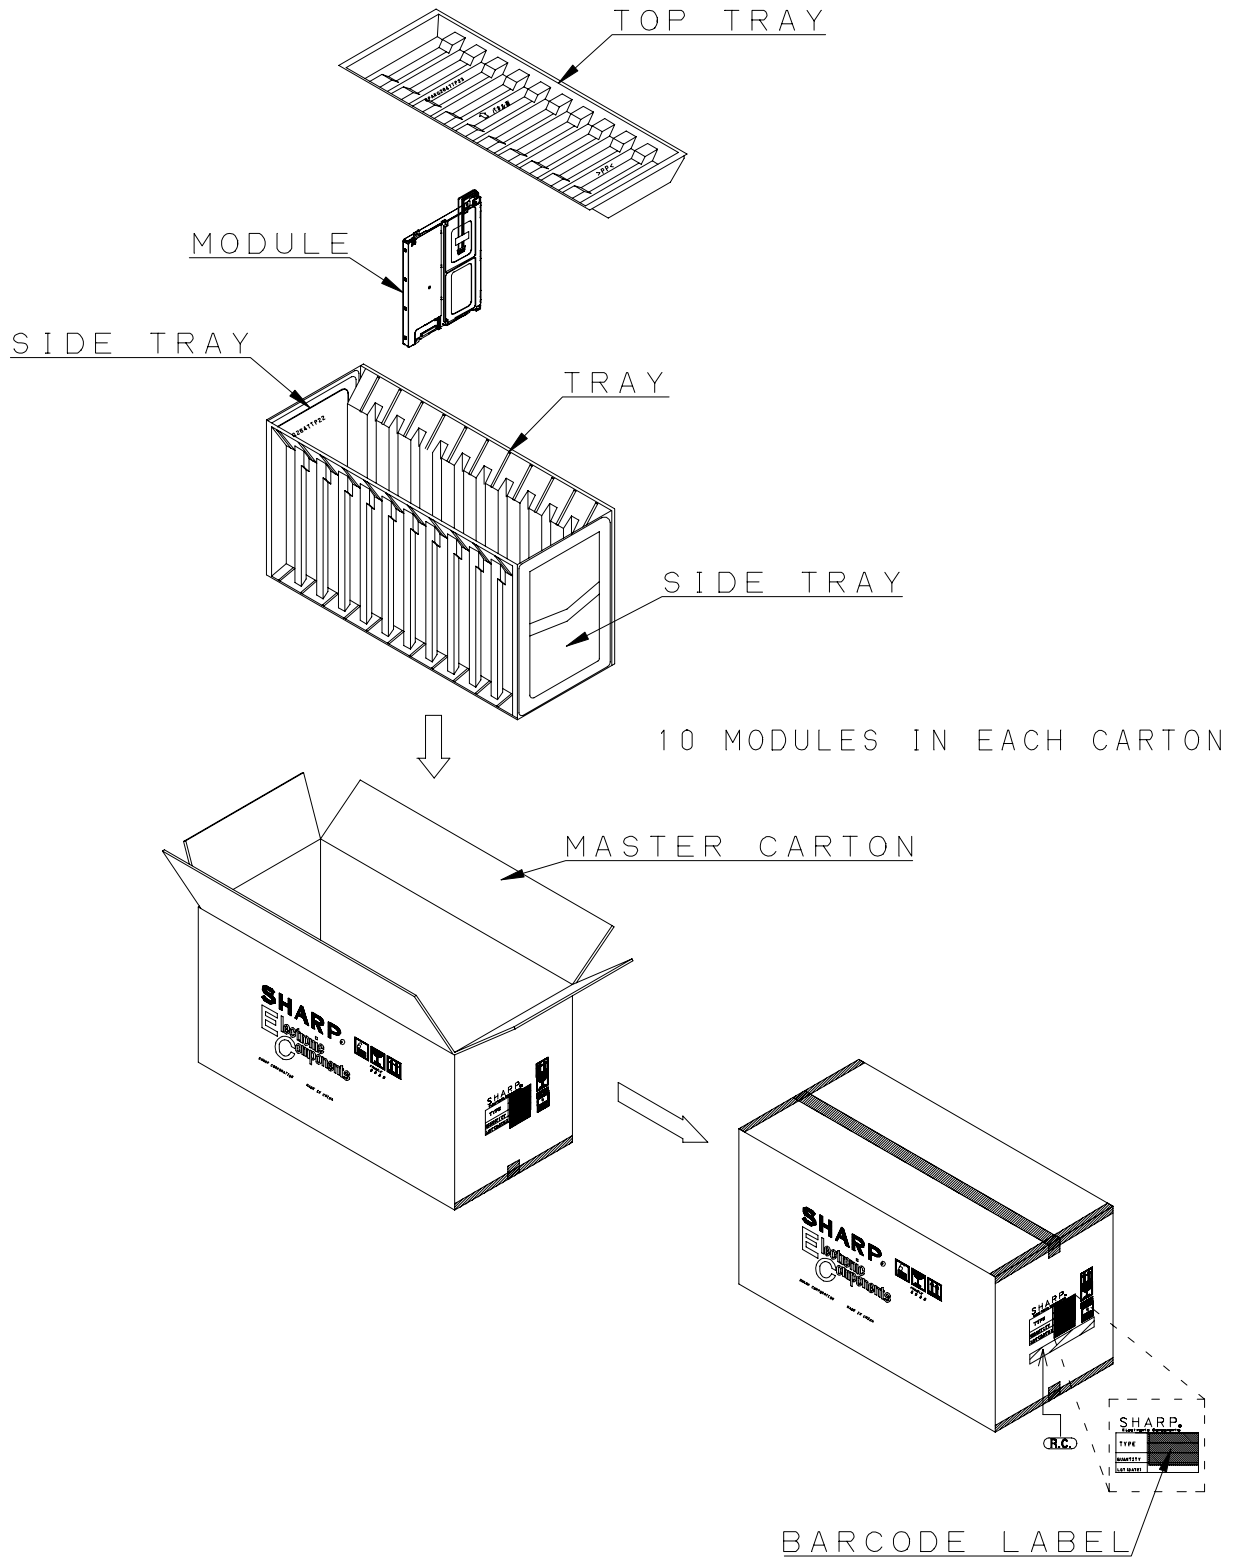

FIG. 3 PACKING FORM
c) Carton size: 408mm (W) x 203mm (D) x 244mm (H)
e) Fig.3 shows packaging form.